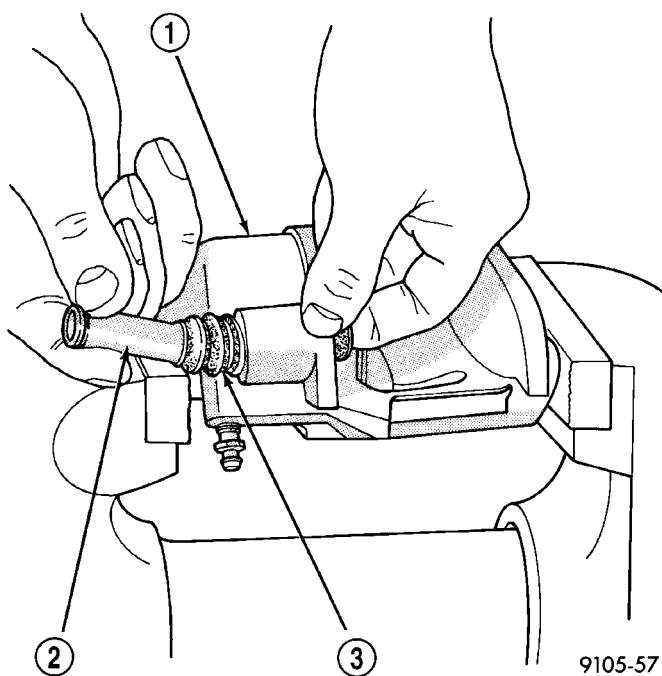

Fig. 44 Removing Sleeve From Bushing
(1) With one hand, push the guide pin bushing sleeve towards the back of the caliper, and at the same time, pull the sleeve out the back of the caliper and bushing (Fig. 44).